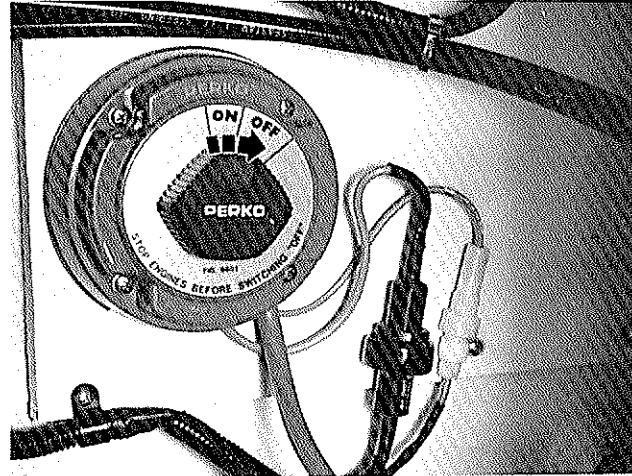

Figure 24
2. Put the battery main switches in the "Off" position. See figure 24.